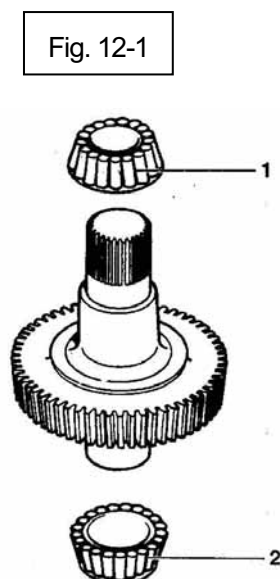

Fig. 12-1
(1) If previously removed, re-install tapered roller bearing
Heat inner race of tapered bearing (Fig. 12-1, item 1 and 2) to approx. 120°C(250°F) and push them onto output shaft up against shaft collar.